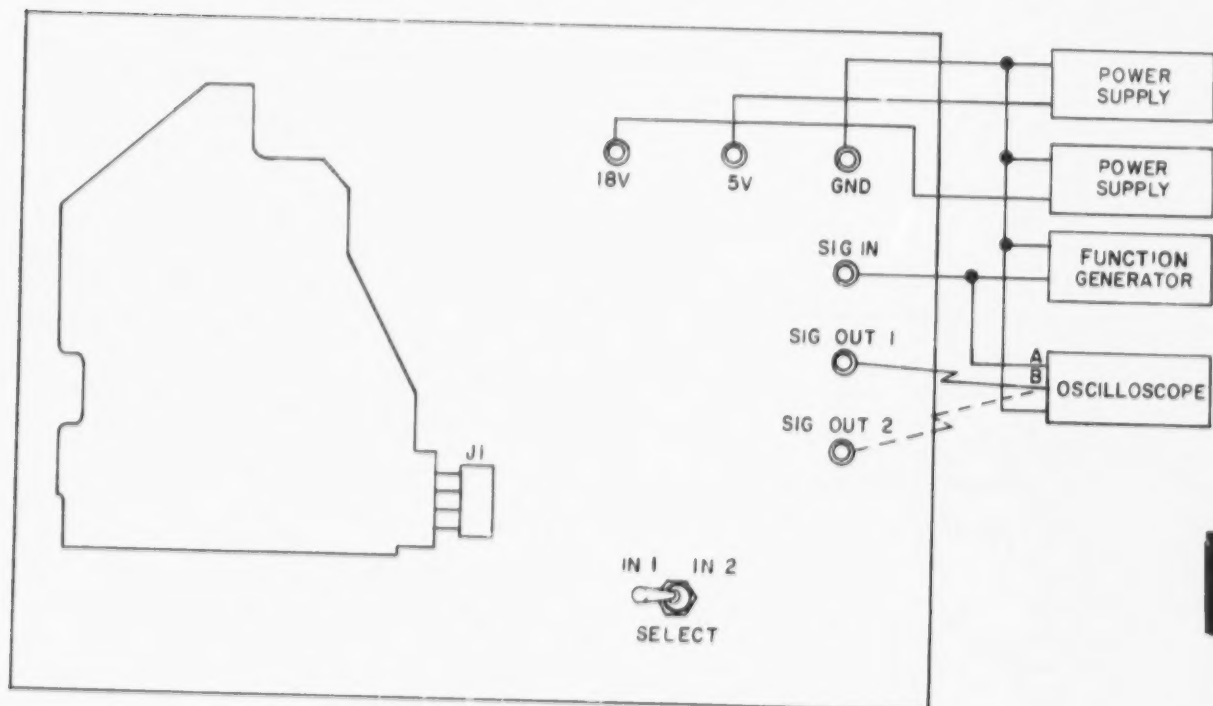

Figure 6-13. HAMMER DRIVER MODULE TEST SETUP
c. Test Setup Procedure for Hammer Driver Module (fig. 6-13).